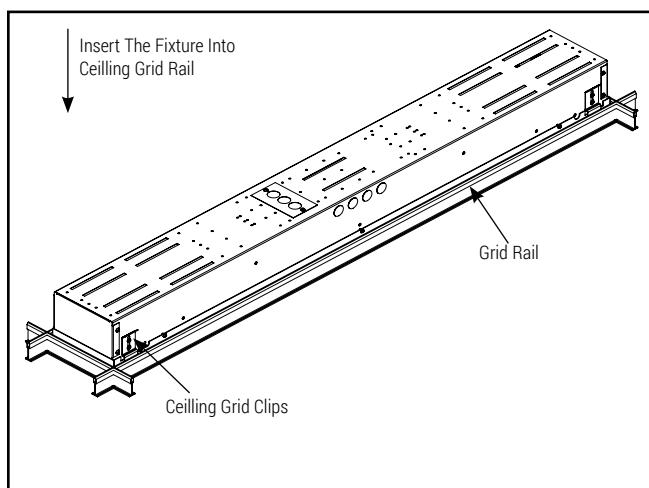

Figure 4.
5. Pass fixture through the ceiling grid at 45 degree angle and lay fixture into the ceiling grid. Use grid clips to secure the fixture to the T-grid (Figure 4)